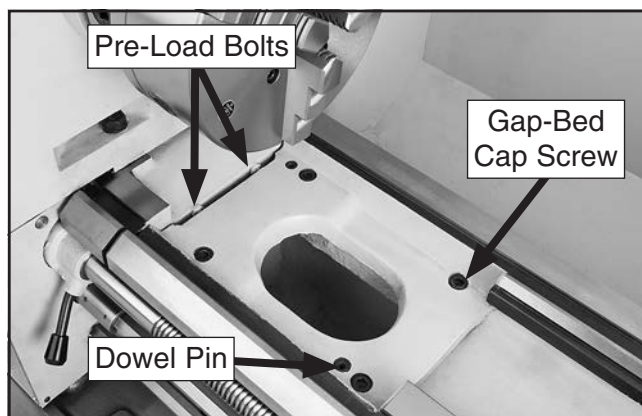

Figure 140. Fasteners holding gap in place.
1. Remove the four gap-bed cap screws, shown in **Figure 140**.